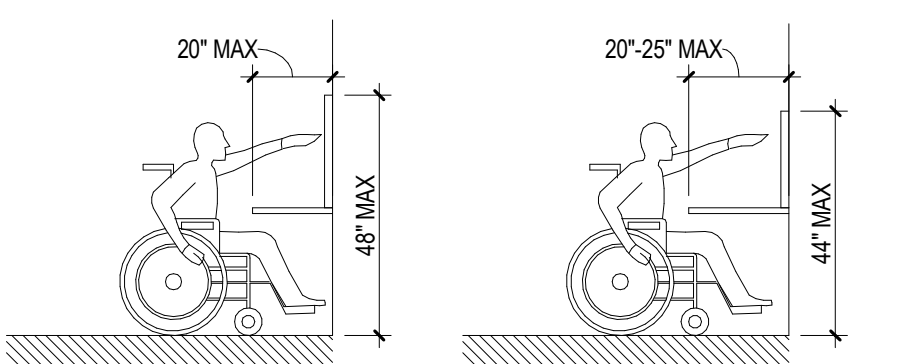

Figure 308.2.2 Obstructed high forward reach
B. Where a high forward reach is over an obstruction, the clear floor space shall extend beneath the element for a distance not less than the required reach depth over the obstruction. The high forward reach shall be 48" maximum where the reach depth is 20" maximum. Where the reach depth exceeds 20", the high forward reach shall be 44" maximum and the reach depth shall be 25" maximum. (Fig. 308.2.2)